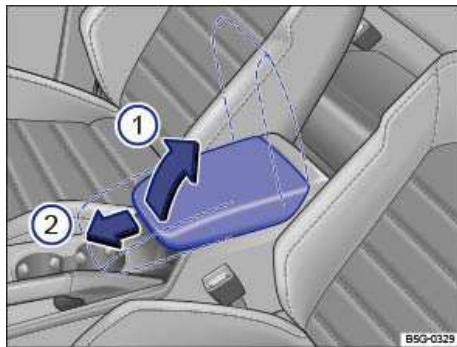

Fig. 43 Front center armrest.
To *raise* the center armrest, push the release button, pull the armrest up, and latch upward in the direction of the arrow ⇒ fig. 43 (1).